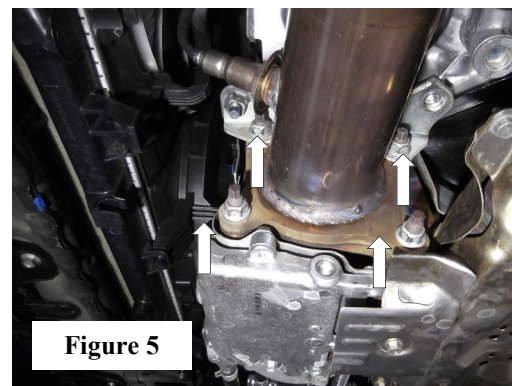

Figure 5
1. Using the original hardware, install the **Front Down Pipe Assembly** attaching flange and bracket using factory hardware. Hand tighten the hardware. (See Figs. 5 & 6)